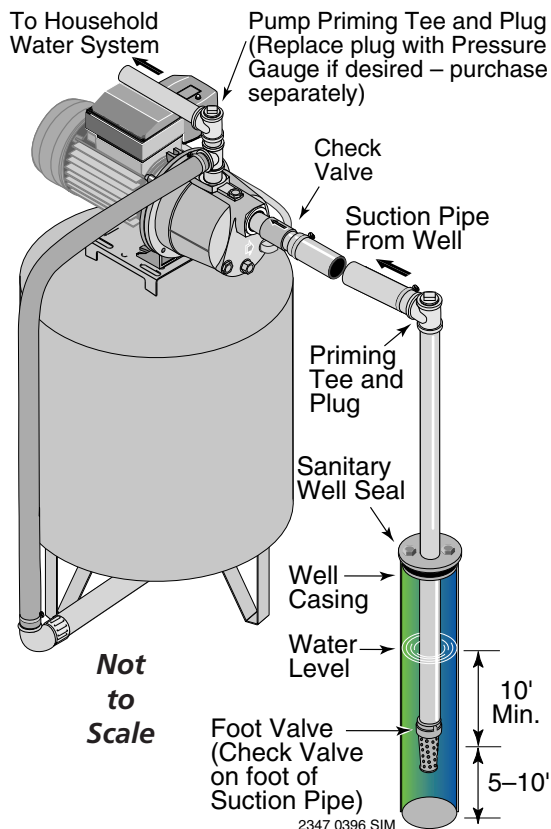

Figure 2 – Cased Well Installation
## CASED WELL INSTALLATION, 2" OR LARGER CASING (FIGURE 2)
2. Assemble the foot valve, strainer, and well pipe (see Figure 2). Make sure that the foot valve works freely.
4. Install a priming tee, priming plug, and suction pipe to the pump (see Figure 2). Connect the pipe from the well to the pump suction port, using the fewest possible fittings – especially elbows – as fittings increase friction in the pipe (however, include a foot valve – see Figure 2). The suction pipe should be at least as large as the suction port on the pump. Use teflon tape on threaded pipe joints. Support the pipe so that there are no dips or sags in the pipe, so it doesn't strain the pump body, and so that it slopes slightly upward from the well to the pump (high spots can cause air pockets which can air lock the pump). Seal the suction pipe joints with teflon tape. Joints must be air-tight and water-tight. **If the suction pipe can suck air, the pump cannot pull water from the well.**